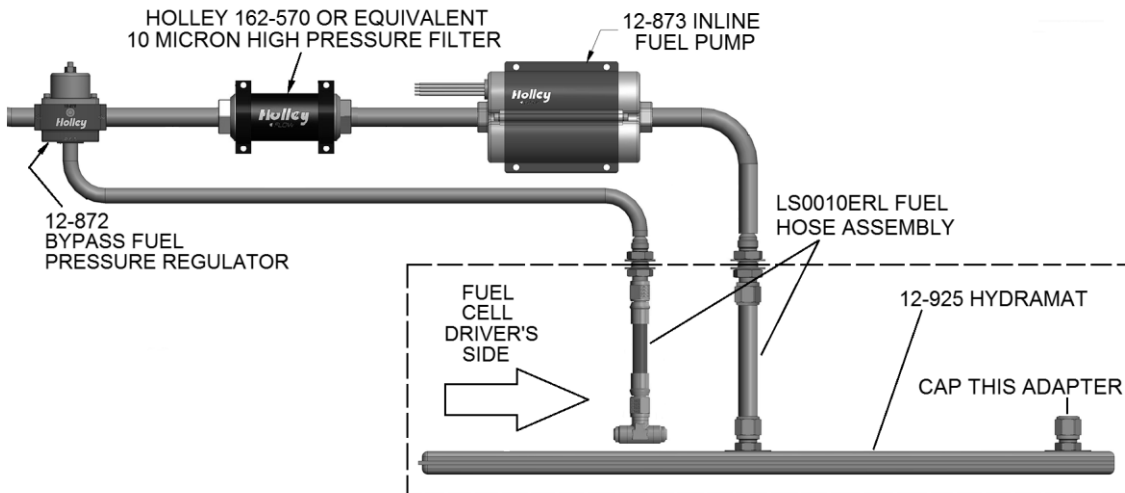

Figure 19
15. Verify that the HydraMat is flat with no wrinkles. Reinstall the fill plate assembly (**Fig. 19**).